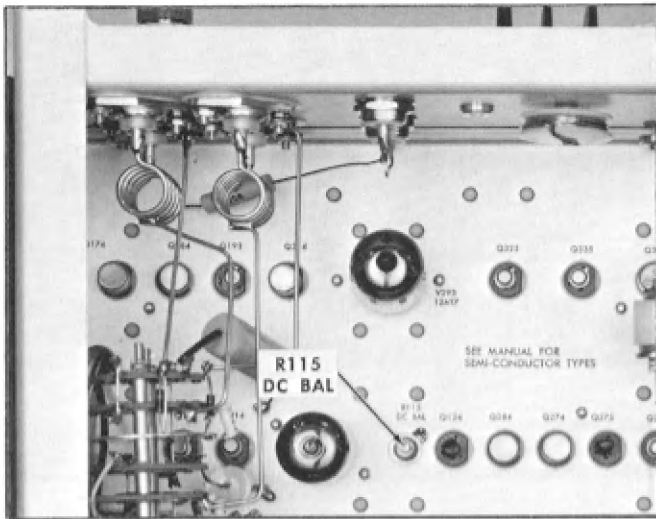

Fig. 6-8. Location of DC BAL adjustment.
7. Adjust DC BAL (R115) ①
- c. Adjust the DC BAL control (R115; see Fig. 6-8) for no vertical movement of the trace as (VERTICAL) VOLTS FULL SCALE switch is set to 0.2, to 0.5, and then returned to 1.0. Repeat this procedure, if necessary, to check that the adjustment is made properly.